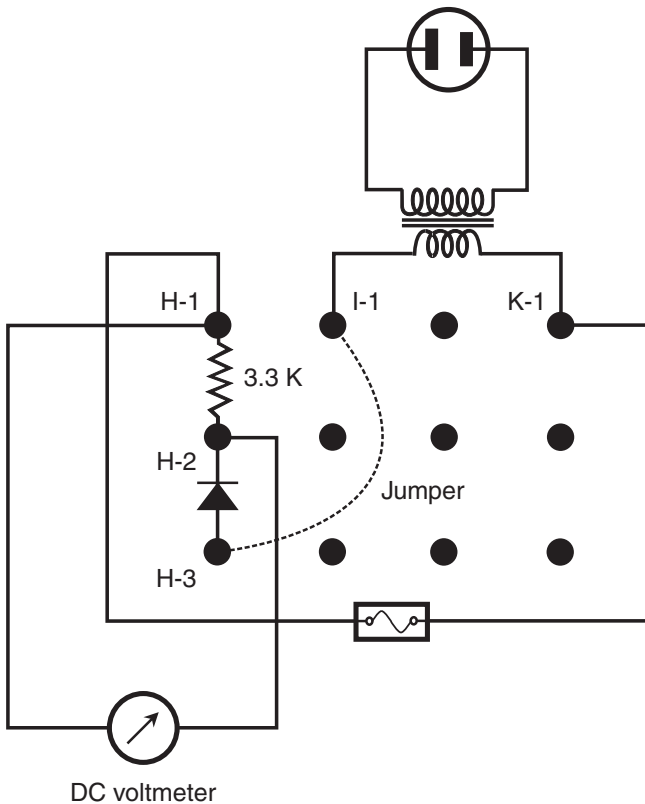

Figure AC7-3 *Measurement of the pulsating voltage from the transformer-diode combination across a resistive load.*
Set your digital multimeter to measure DC resistance. Test a 3.3-kilohm (K) resistor to determine its actual value. My resistor tested at 3.24 K. Place the resistor across the rectified transformer output as shown in Fig. AC7-3, forcing the transformer-diode combination to deliver some current.
Start with the arrangement shown in Fig. AC7-3 on page 184. Switch the power strip off. Remove the resistor. Set the transformer switch to the lower-voltage position [rated at 18 volts (V) RMS]. Put on your rubber gloves, and wear a pair of safety glasses to protect your eyes. Do you feel as if you're in a high-profile chemistry lab? Well, you are! Electrolytic capacitors work by chemical action. A mistake with the "mix" can cause the chemicals to misbehave. If you install an electrolytic capacitor "backward" and then apply voltage to it, the little thing will explode like a firecracker. (I'm not joking. I've seen it happen.)